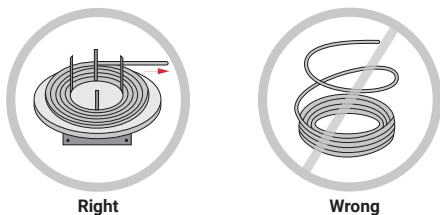

Figure 6: Unreeling/uncoiling cable
- Use a pay-off reel to uncoil heating cable during installation; do not pull cable out into a spiral (Figure 6).